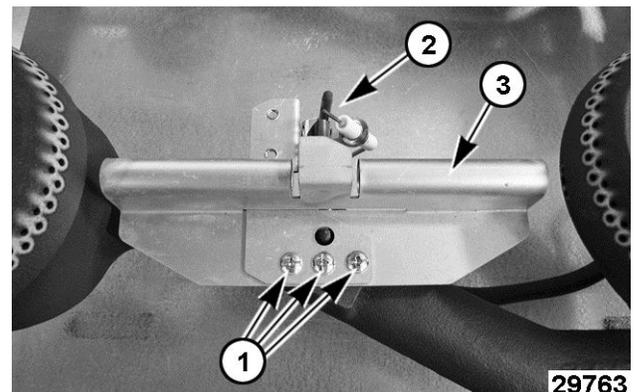

Fig. 102
8. Remove screws (1, Fig. 102) securing pilot assembly (2, Fig. 102) and flash tube (3, Fig. 102) to the burner assembly. Slide pilot assembly out from mounting slot in flash tube.